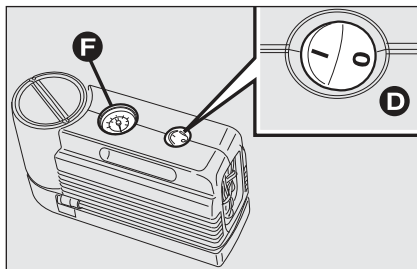
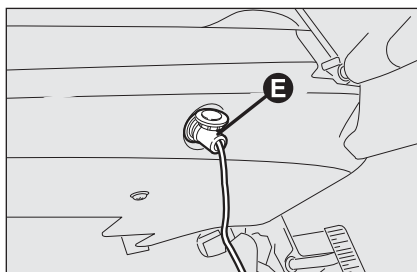

fig. 10
fig. 11
- ☐ make sure that switch **D-fig. 10** of the compressor is in position 0 (off), start the engine, plug into the nearest socket **E-fig. 11** and activate the compressor by turning switch **D-fig. 10** to position 1 (on). Inflate the tyre to the pressure specified in the “Inflation pressure” paragraph in the “Technical specifications” section.
For a more accurate reading, check pressure gauge **F-fig. 10** with the compressor off;